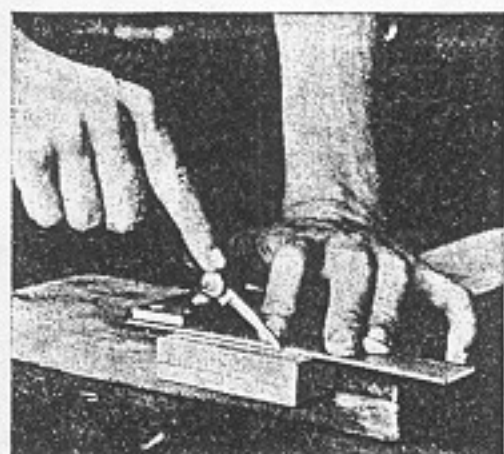

Fig. 71. Scoring line with knife.
2. To aid in getting a straight and accurate cut, a triangular groove is made with a knife and a chisel on the waste side of the line. It is easy to start the saw in such a groove (Figs. 71 and 72. See also Fig. 175).